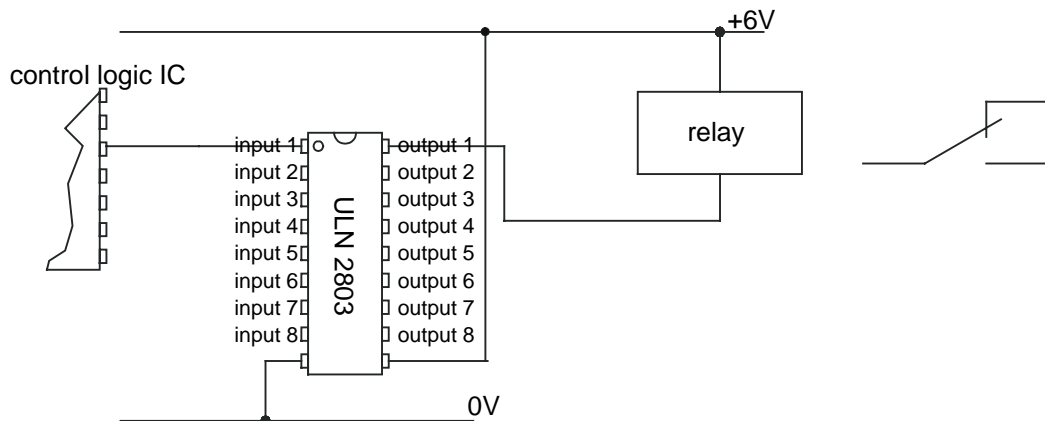

Fig. 12
- (b) Output from the control circuit is amplified through a ULN2803 Darlington driver IC. Fig. 12 shows details of the IC, which will power a relay coil.